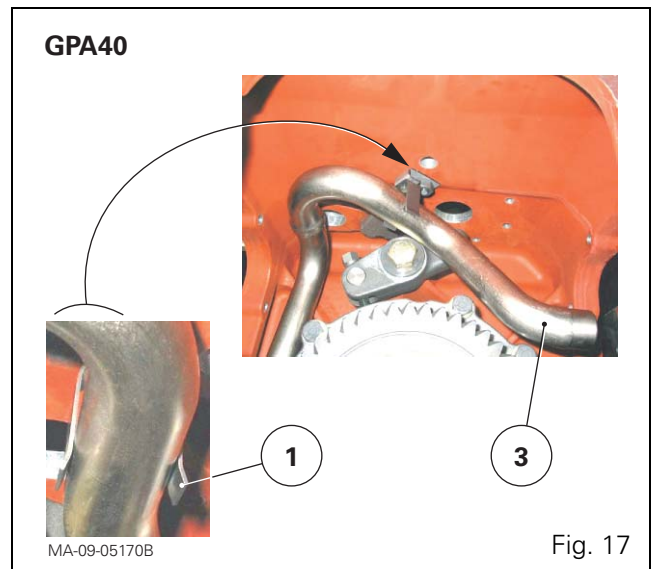

Fig. 17
- that the GPA40 charge pipe (3) is correctly positioned (Fig. 17).
NOTE: The charge pipe (3) is fixed to the inside of the centre housing by a clip (1) (Fig. 17).